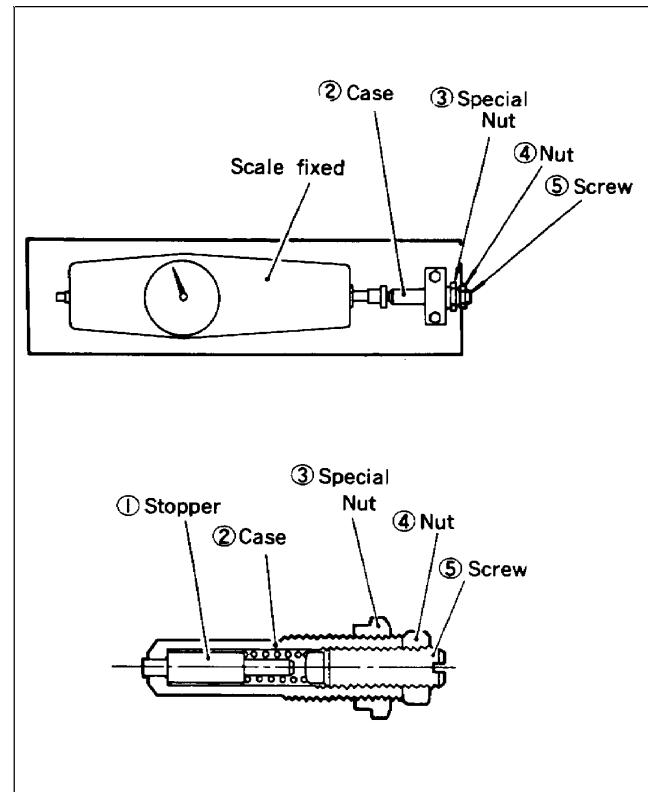
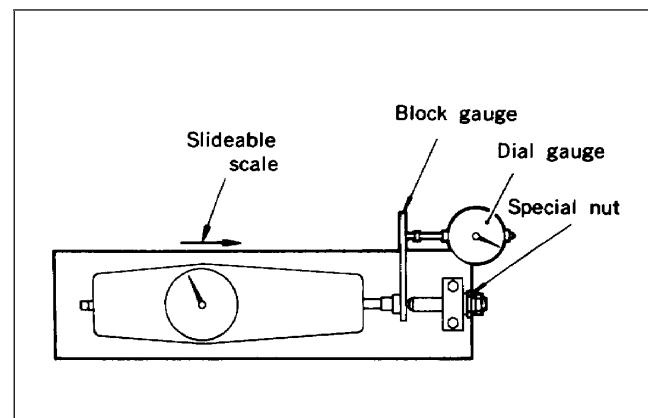

Figure 37
Figure 38
1. Assemble the torque spring set as shown in Figure 37.
3. Set dial on spring scale to zero (0). Tighten spring case until a value of 970^{+10}_{-0} grams is obtained. Lock the spring case in that position with special nut.
5. To inspect torque spring set for proper adjustment, use a test set up as shown (Fig. 38). Gradually push scale against torque spring set until stopper is moved (or pointer of dial indicator moves). Check that load applied to torque spring at that moment is 950^{+20}_{-30} grams.